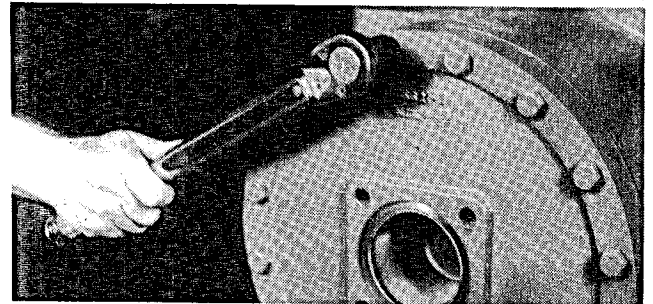
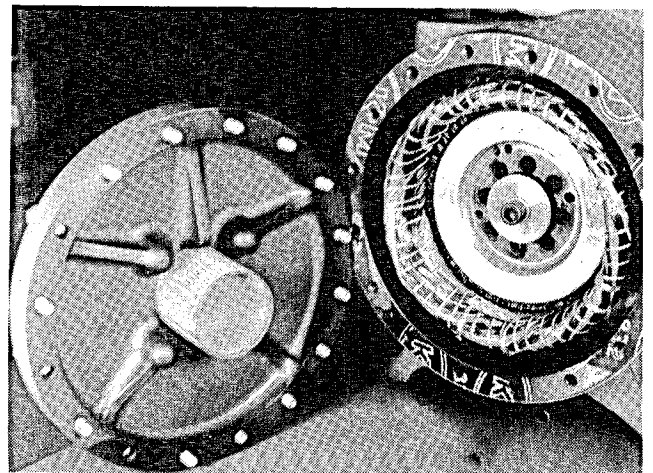

Figure 23
Figure 24
1. Remove the suction cover mounting bolts (Figure 23) and lift the cover off the housing (Figure 24). If